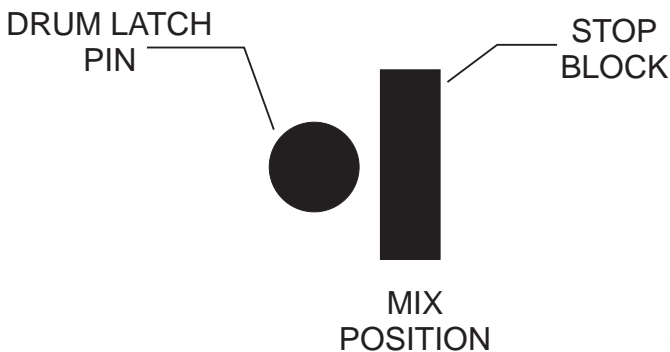

Figure 24. Drum Lock Pin (Left Position)
4. When charging, mixing, or dumping a batch of plaster or mortar the drum lock pin should be placed to the left (when viewing the mixer from the towpole end) of the drum stop block which is welded to the front side of the drum. See Figure 24.